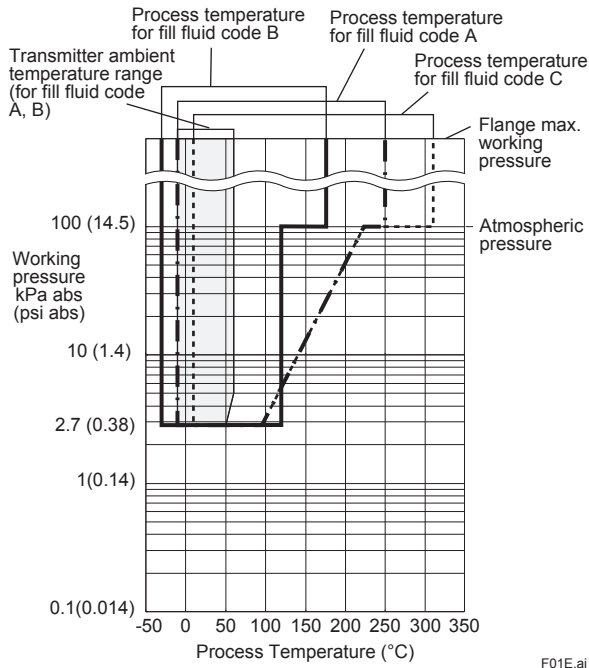

Figure 1-1. Working Pressure and Process Temperature (Fill fluid: silicone oil for general and high temperature use)
For atmospheric pressure or below, see figure 1-1 and 1-2.
*1: See figure 1-1 and 1-2 'Working Pressure and Process Temperature.'